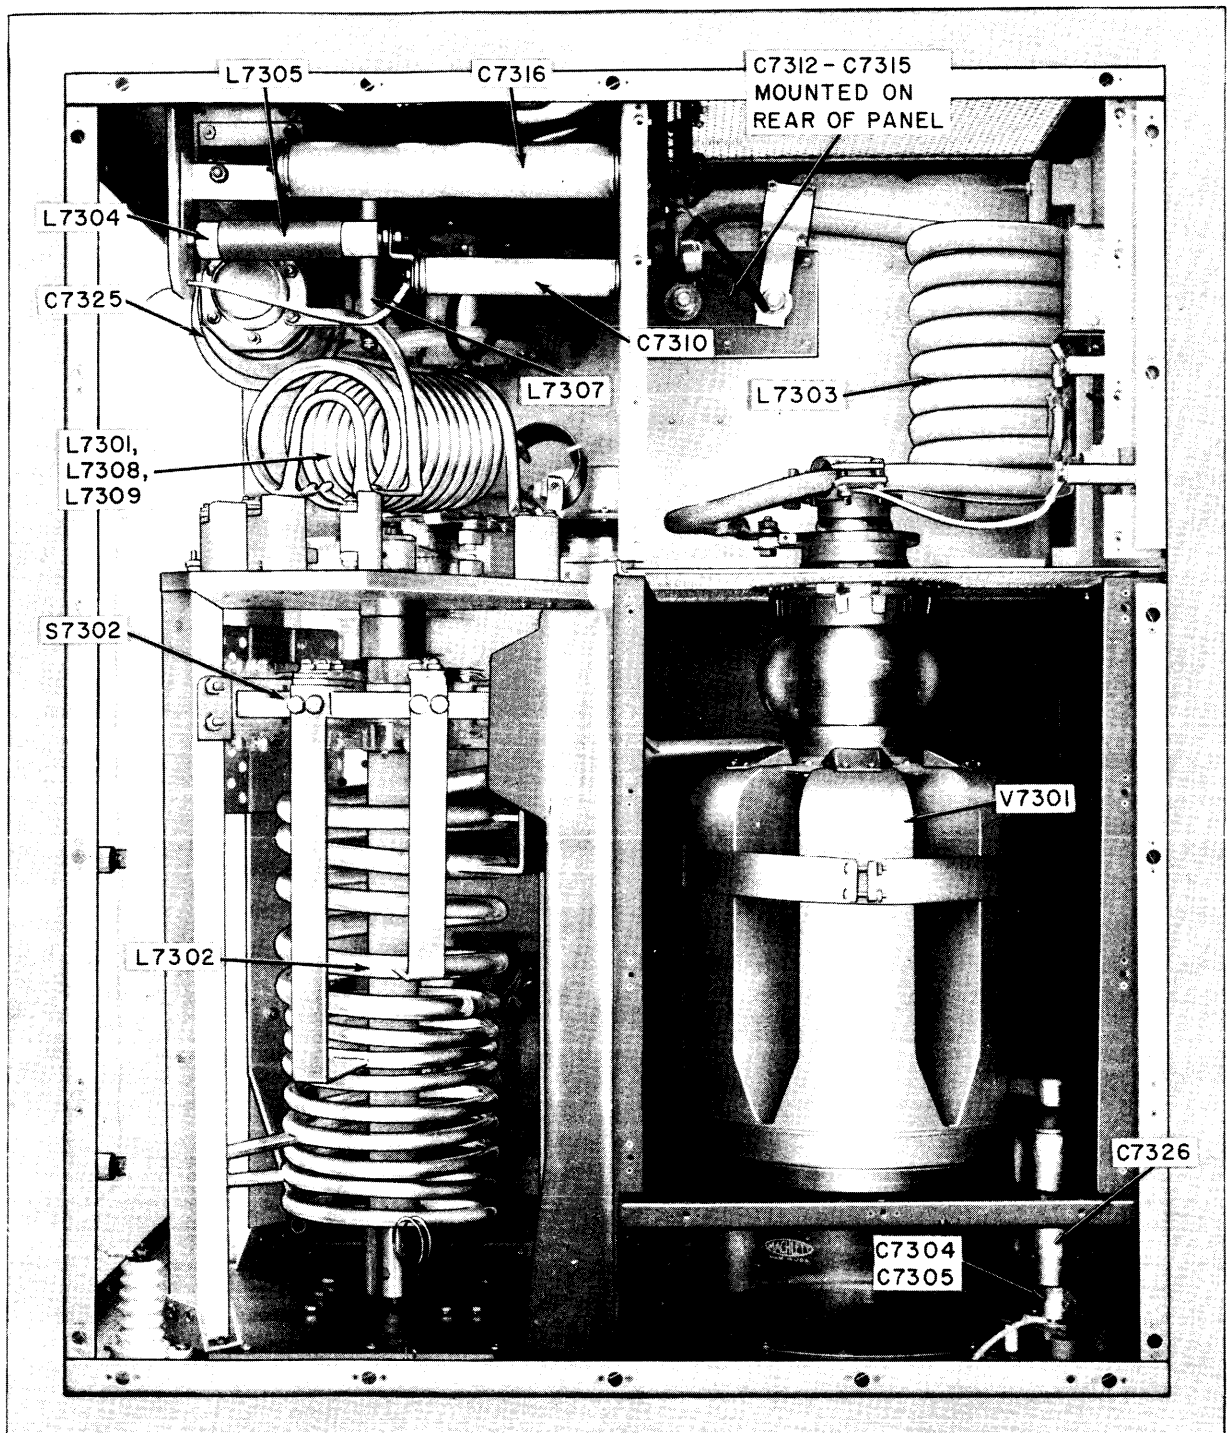

Figure 4-5-4. Rear View with Callouts, PA Capacitor/Coil/Gear Train Compartment, GPT-40K
b. LOCATION DATA. - Figures 4-5-4 through 4-5-7 shows views, with callouts, of the principal components mounted on the PA frame chassis.